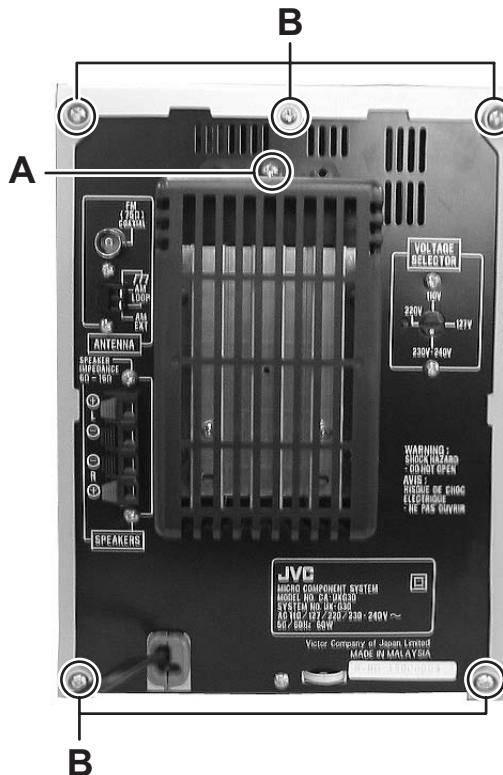

Fig.1
#### 3.1.1 Removing the side panel (See Fig.1 to 3)
- (1) Remove the one screw **A** attaching the rear cover. (See Fig.1)
- (2) Remove the five screws **B** attaching the side panel and top cover. (See Fig.1)